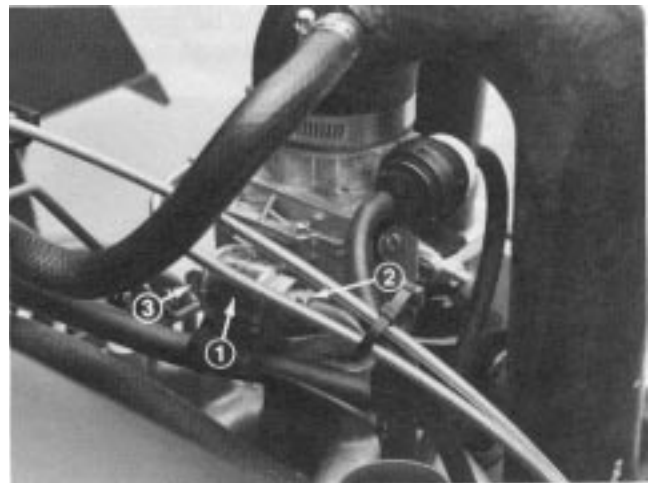

Figure 35
- 1.** Disconnect elbow fitting from rear of fuel filter (Fig. 35).
- 2.** Disconnect front of filter from elbow fitting (Fig. 35).